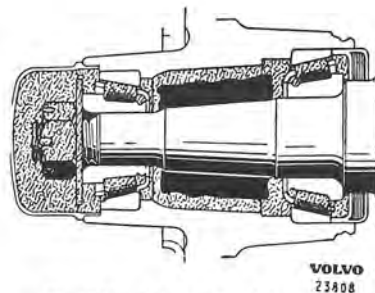

Fig. 7-27. Lubrication of front bearing
8. Grease the bearing with the help of a pressure greaser. If there is not one available, pack the bearings by hand with as much thick grease as there is room for between the roller retainer and inner ring of the bearing. Also apply grease to the outer sides of the bearings and on the outer rings pressed into the hub. The recess in the hub is filled with grease all round up to the smallest diameter of the outer ring of the outer bearing, see Fig. 7-27.